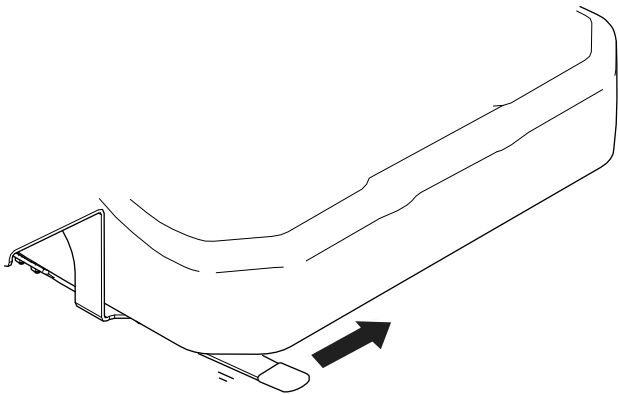

Figure 5
- **Model No. 31980:** Move the lever to the left (Figure 5), move the seat to a comfortable position, and release the locking lever to secure the position of the seat.